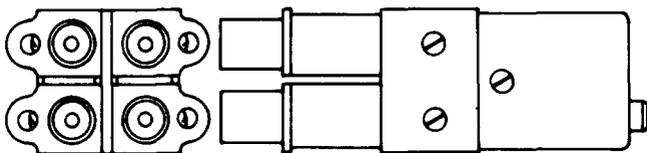

Fig. 3—628A or B Jack
2.03 628A and B: The 628A and B jacks (Fig. 3) consist of two twin coaxial jacks mounted to a common base and designed for a solderless shield connection to a 760A cable. The center conductors of each twin jack are connected together internally to provide for monitoring. The test voltage for the 628A and B jacks is 2000 volts ac. The 628A jack mates with the 358- and other similar-type plugs. These jacks are used in A2A and A2AT Video Transmission Systems.